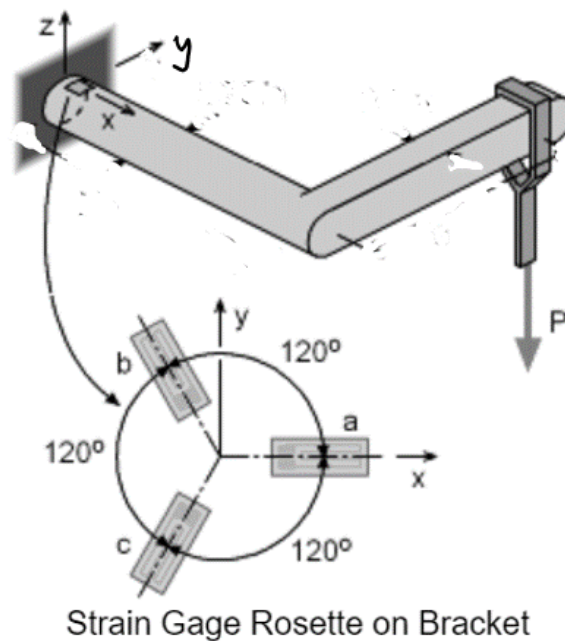

Figure 5
- (c) Figure 5 below shows a 60-degree strain rosette attached to a machine component. The following reading is recorded in the measurement and the associated formulae for the calculation of strain component is also listed below. Calculate the principal strain and the maximum shear strain. Using stress-strain transformation, determine the principal stress given the Young's modulus, $E = 200 \text{ GPa}$ and the Poisson ratio is 0.3.